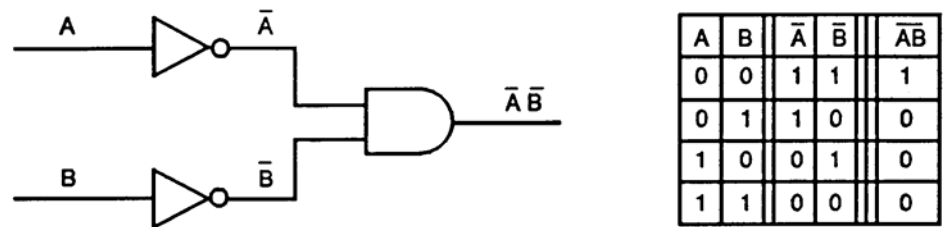
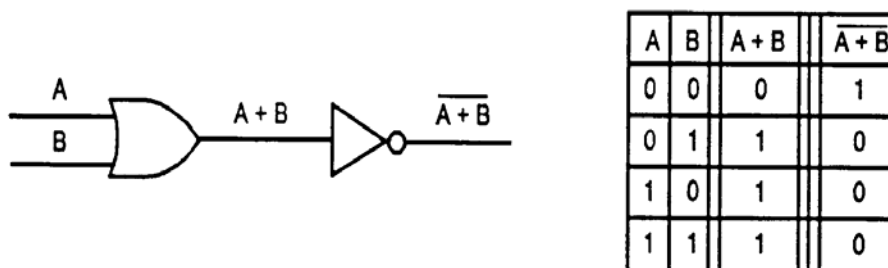

Figure Q-15. NOR Gate
Figure Q-16. NOR Gate (alternate)
(2) Just as in the case of the NAND gate, there are also two ways to construct a NOR gate. The first is to feed the inputs into an AND gate after they have been inverted. Figure Q-15 shows this along with the truth table.
(3) From the truth table in Figure Q-15, you can see that this configuration satisfies the definition of a NOR gate. The second way to perform the NOR function is to feed the inputs into an OR gate and then invert the output. Figure Q-16 shows this operation.